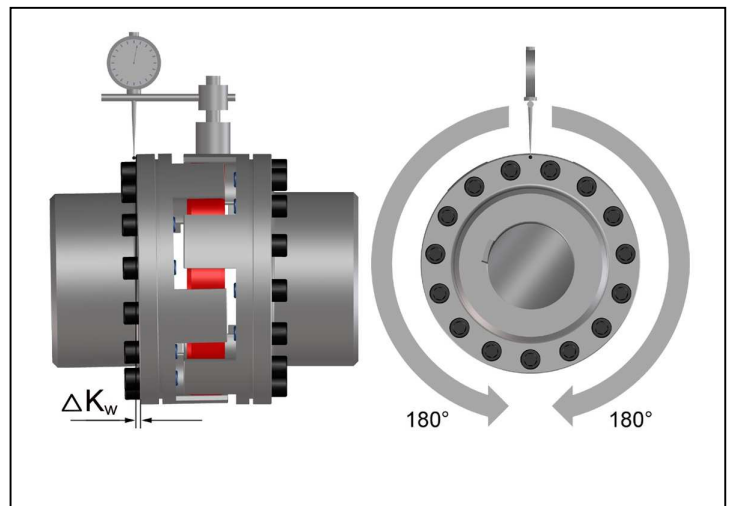

Fig. 7
- Measure one complete revolution (360°) on the face of the outer diameter. Determine the largest deviation Kw1 and the smallest deviation Kw2 (Fig. 7). Calculate the angular misalignment: